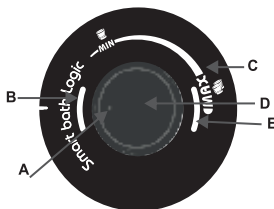

Fig. 2
Drain lever (L) is provided to drain the water heater only in case of servicing as shown in Fig.2. To avoid deposition of lime in the safety valve, please move the lever(L) up and down few times once in a 6 month.
In case of safety-valve dripping during normal use, connect a discharge pipe (P) as shown in Fig.2. This will happen only if the pressure inside the tank reaches beyond rated pressure limits.